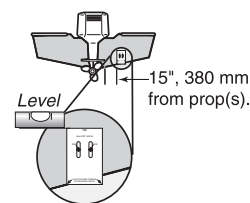

Figure 15
- The hydrodynamic shape of your transducer allows it to point straight down without deadrise adjustment (Figure 15).
2. Hold the template on the transom of the boat in the location where the transducer will be installed (Figure 15). Align the template vertically, matching the lower edge of the transom with the bottom corner of the template. If your propeller moves clockwise as the boat moves forward, mount the transducer on the starboard side, and use the bottom left corner of the template. If your propeller moves counter-clockwise as the boat moves forward, mount the transducer on the port side, and use the bottom right corner of the template.